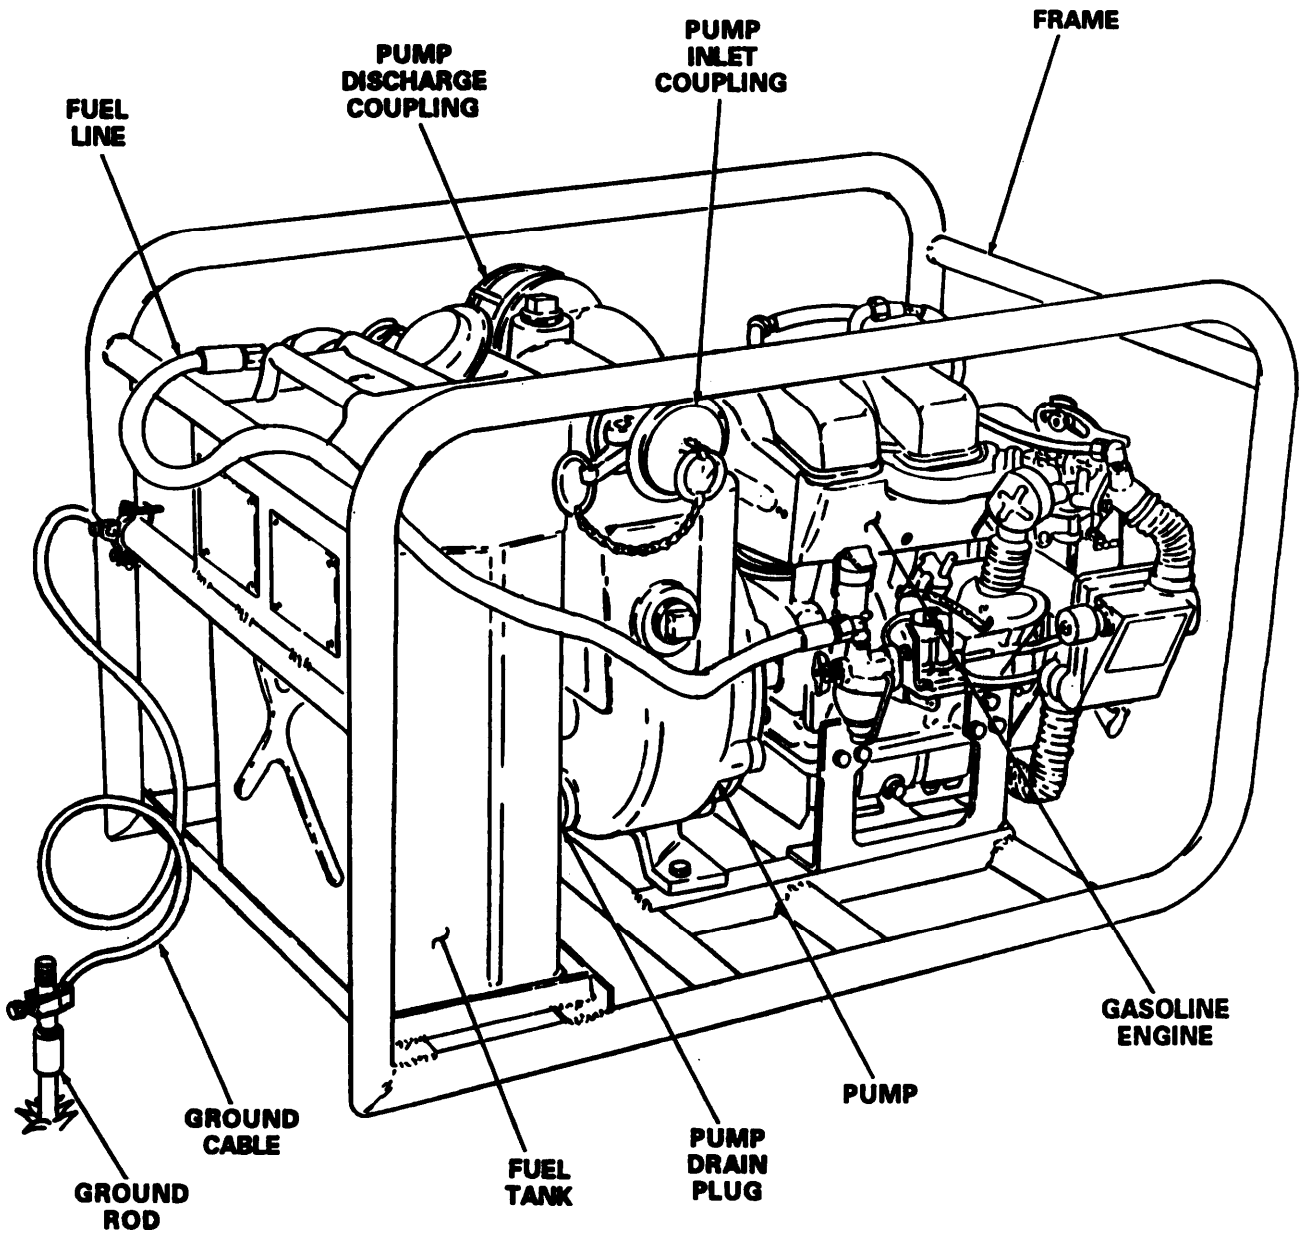

Figure 1-1 Pump Assembly, NSN 4320-00-427-002
a. Type of Manual. This manual provides operator, unit, direct support and general support maintenance instructions for Pump Assembly, NSN 4320-00-427-0002. This is a gasoline-engine driven, self-priming centrifugal pump assembly for ONLY pumping flammable liquids (figure 1-1). These instructions include procedures for setting up and operating the equipment under usual and unusual conditions as well as inspection, Troubleshooting, repair and replacement of individual components at assemblies. This manual also provides a repair parts and special tools list contained in Appendix G.
a. Characteristics. The pump assembly (see figure 1-1) is designed to ONLY pump flammable liquids at the rate of 100 gallons (378.5 liters) per minute. It consists of a gasoline engine, fuel system and pump, mounted in a tubular frame.
- (1) Self-priming
- (2) Capable of pumping up to 100 gallons (378.5 liters) per minute
- (3) Portable, complete assembly package 7.7 cu. ft. (0.2 cu. meters), weight 137 lbs (62.11 kg).
1-7. Location and Description of Major Components. The major components of the pump assembly, shown in figure 1-1, are described in the following subparagraphs. Specifications and data for the components of the pump assembly are provided in paragraph 1-9.